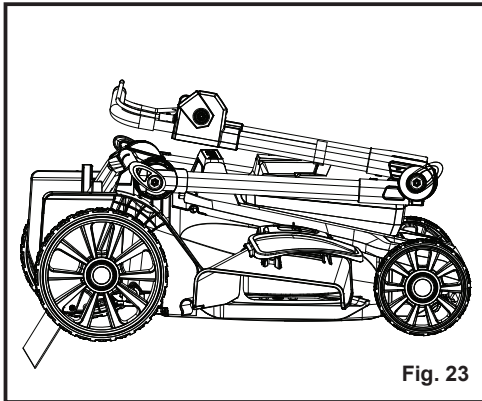

Fig. 23
- Fully loosen the handle locking knobs on the sides of the handle and fold the upper handle down (Fig. 23).